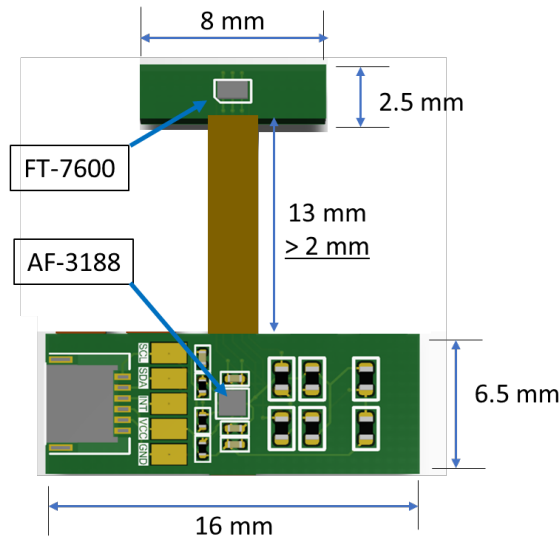

Figure 5: Qorvo FM7600R Module
- Place the nearest components at least 0.3 mm away (RECOMMENDED) from the sensor (Figure 5).